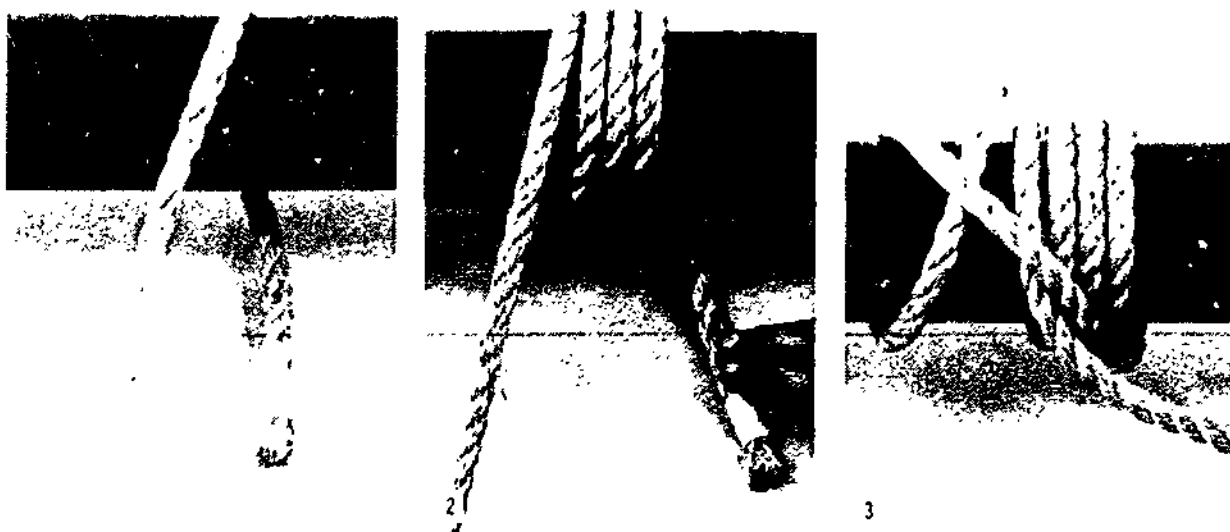

Figure 7-21. Tying a Rolling Hitch
- 4 The **rolling** or **Magnus hitch** is used to fasten a line to another line, cable, timber or post and it will remain tight under tension or pull. This hitch is also known as the **mooring hitch**. Figure 7-21 illustrates the steps in tying the rolling hitch.